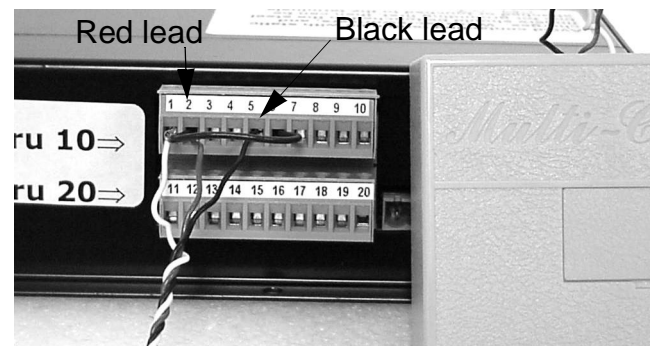

Figure 35. Contacts Connection
2. Connect the white wire of the RC-10 controller unit to terminal #1 (see Figure 35).